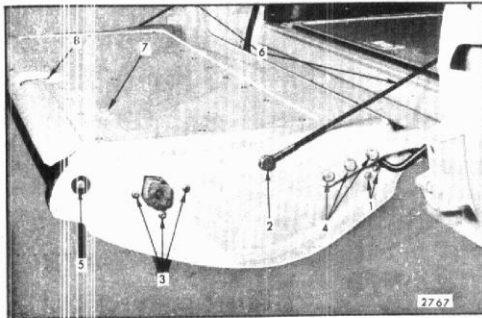

Fig. 9-55-Tail Gate Hardware - Right Side
3. Remove screws securing lock to tail gate (Fig. 9-55).
2. Remove torque rod bearing plate (Fig. 9-55).